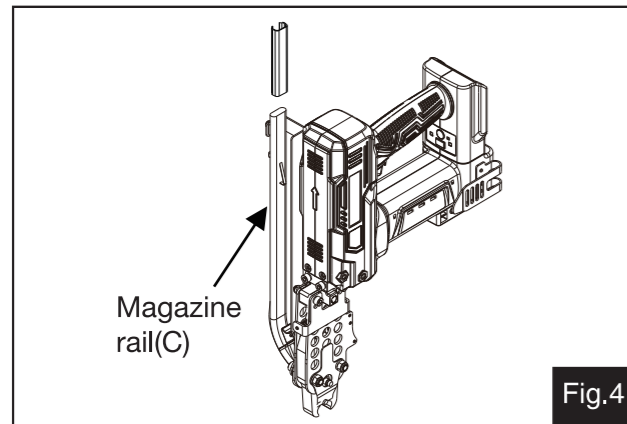

Fig.4
2. Load the nails into the magazine rail (Fig.4).